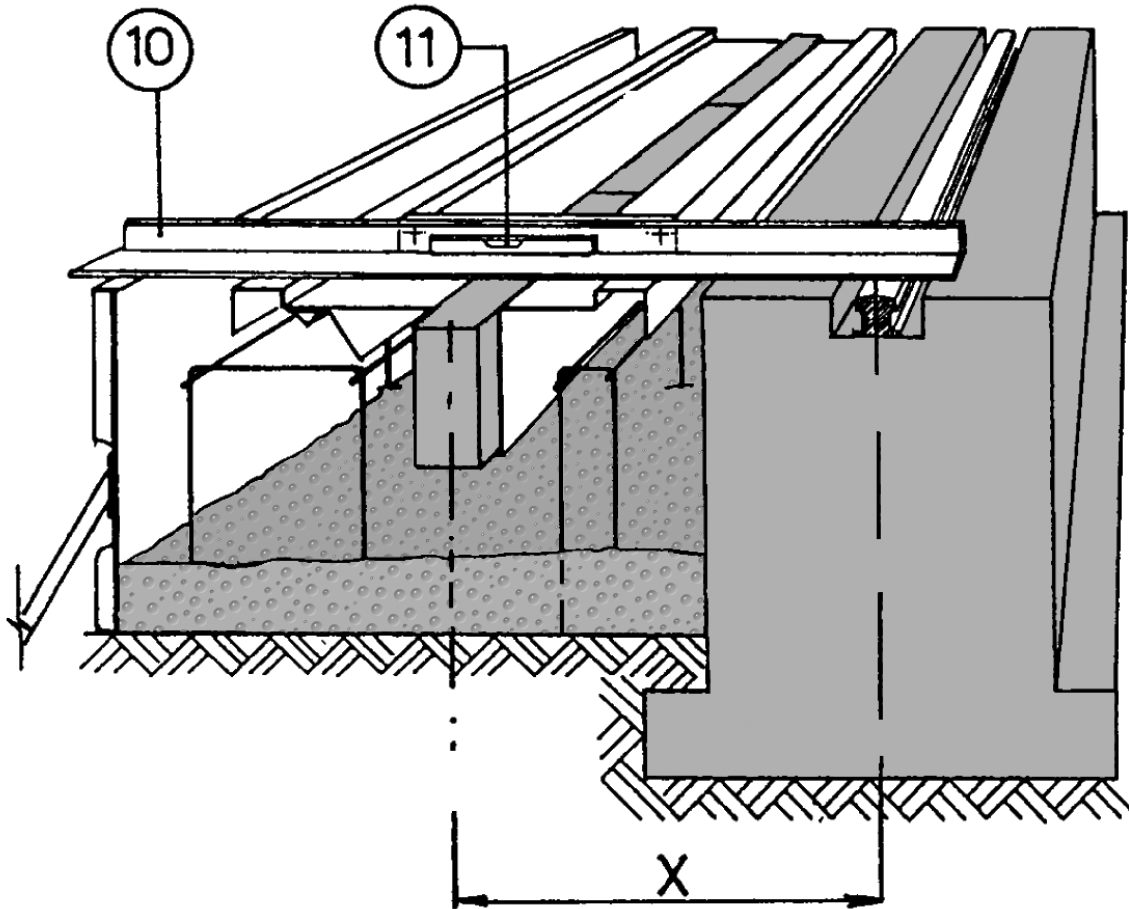

Figure 6a.
6.1 **Figure 6a** shows the positioning of the channel system with the rail (with a maximum tolerance of about 10mm.), using transoms (10). It is important to verify the critical dimension (X) of the project and the exact alignment and level between the channel and the crane rail.